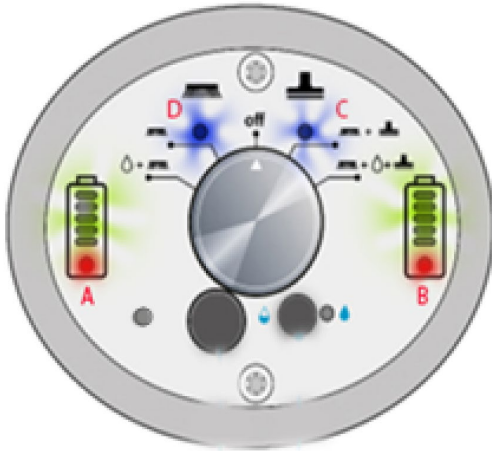

Figure 23d
2. For short term parking of the machine i-mop® has a built in timer to manage and guarantee it's durability on brushes. The operator shouldn't park the machine too long on it's brushes to avoid damage to the brushes. The display will start to light up as indicated in **figure 23d**. After 9.5 minutes the lights indicated on A,B,C,D start blinking.